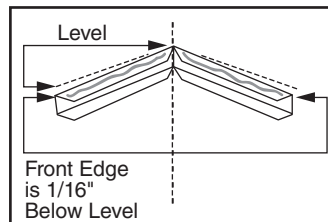

FIG. 2
- 3. Apply Silicone Sealant to Mount-** Apply DAP 3.0 Advanced Hybrid or DAP Kwik Seal Ultra Sealants to the top and bottom of the corner support bracket to secure the corner shelf to the bracket. (**Fig. 2**)